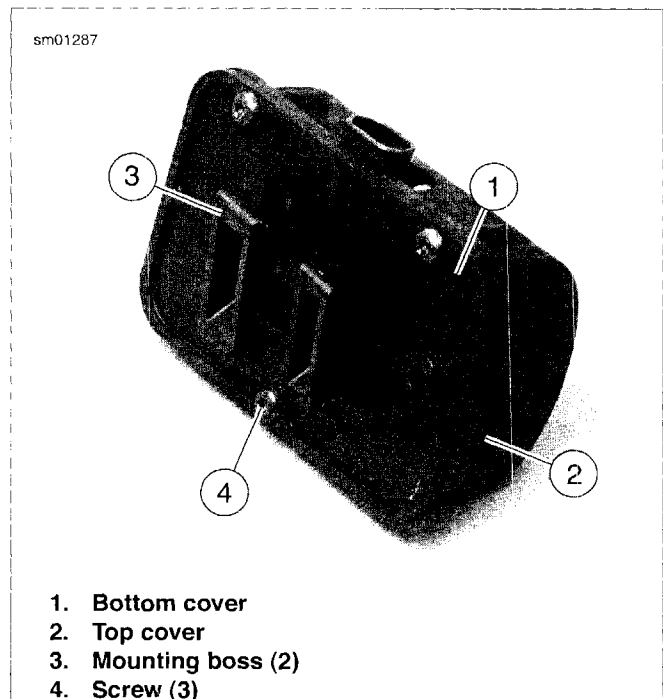

Figure 6-116. Security Siren Housing
1. See Figure 6-116. Remove three screws (4) and bottom cover (1) from top cover (2) of security siren assembly.
- See Figure 6-116. Place bottom cover (1) on top cover (2) and secure with three screws (4).